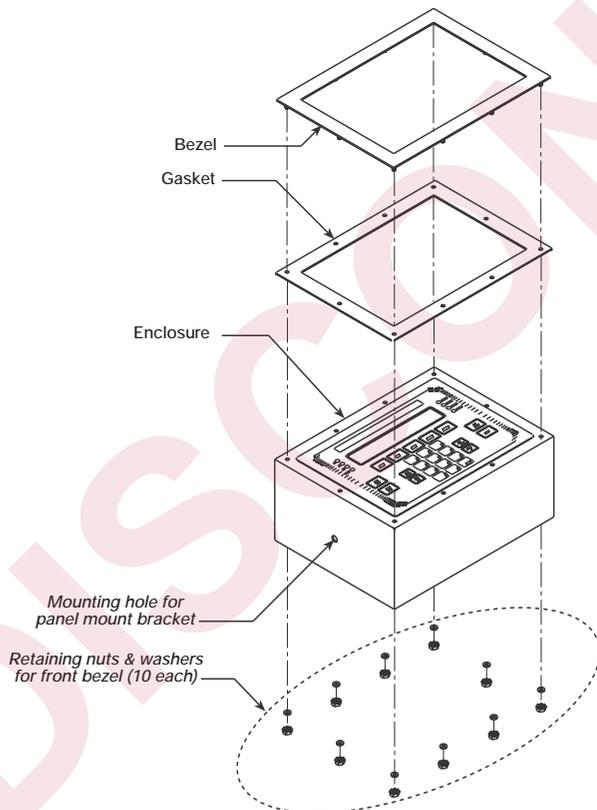

Figure 2-13. IQ plus 800 Bezel and Gasket Replacement
5. Remove the 10 nuts and washers that secure the bezel to the front of the enclosure (see Figure 2-13).